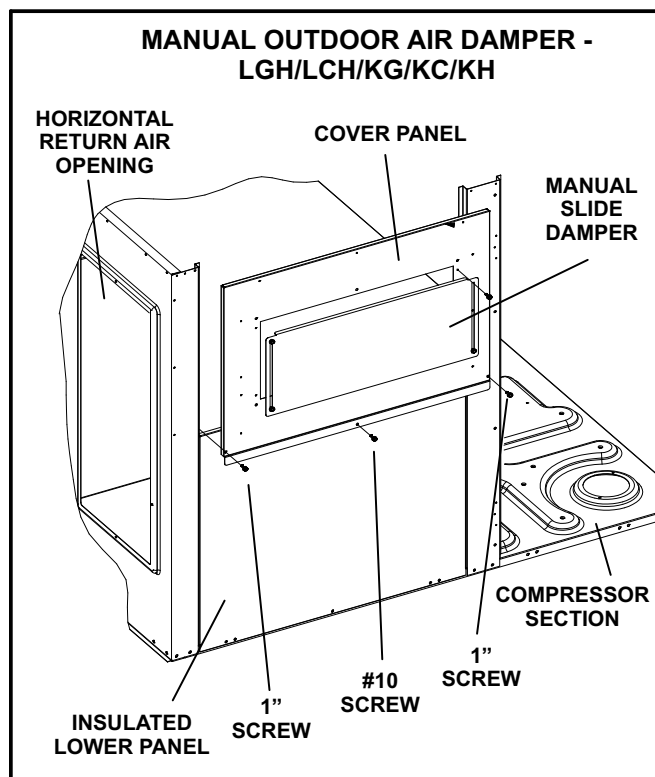

FIGURE 7
- 4- Locate insulated lower panel provided in kit. Align holes on the lower panel with holes in the unit base. Secure panel with #10 screws **EXCEPT** on 150/152 units. On 150/152 units, use retained screws. See figure 7.